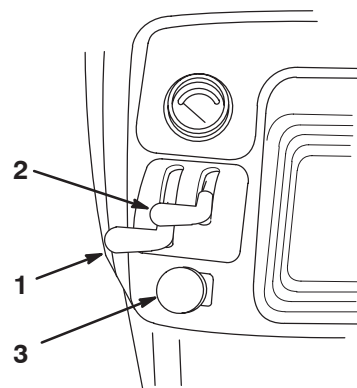

Figure 12
3. Push the PTO switch to the off position (Fig. 12).
4. Move the choke lever to the on position (if the engine is cold) (Fig. 12).
5. Move the throttle lever halfway to the fast position (Fig. 12).
- After the engine starts, move the choke lever to the off position (Fig. 12).
- Move the throttle lever to the slow position (Fig. 12).